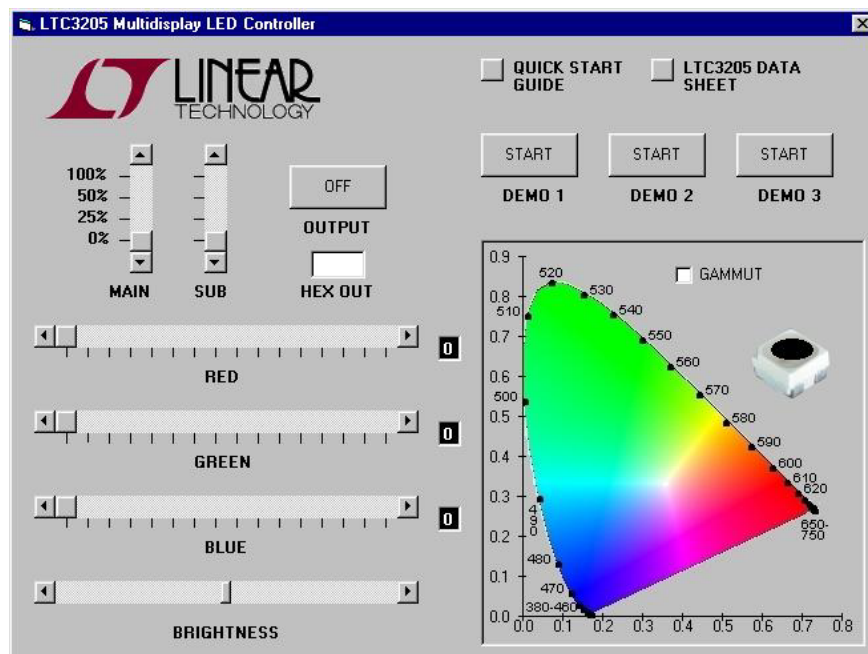

Figure 2. LTC3205 Control Window
3. Run the QuickEval™ program. The program detects the DC629 and displays the LTC3205 control window (shown in Figure 2).